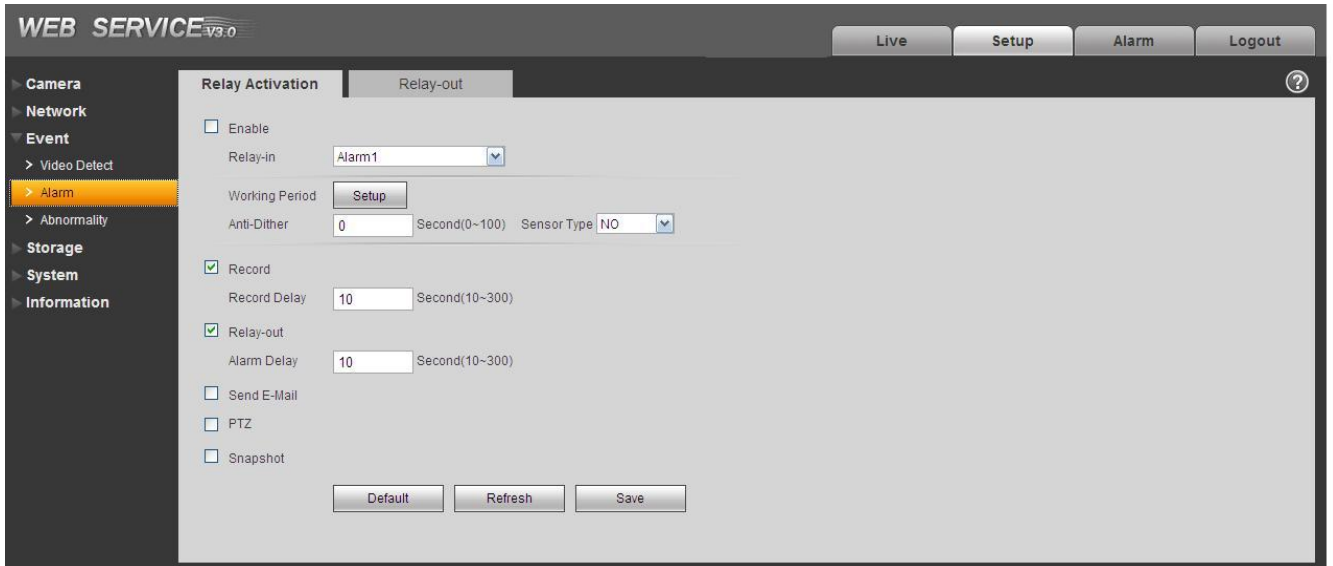

Figure 1-7
The alarm interface is shown as in Figure 1-7. Please follow the steps listed below for local alarm input and output connection.
- 3) Open the Web, go to the Figure 1-7. Please set the alarm input 01 port for the first channel of the I/O cable (No.4 pin). Then you can select the corresponding type (NO/NC.)